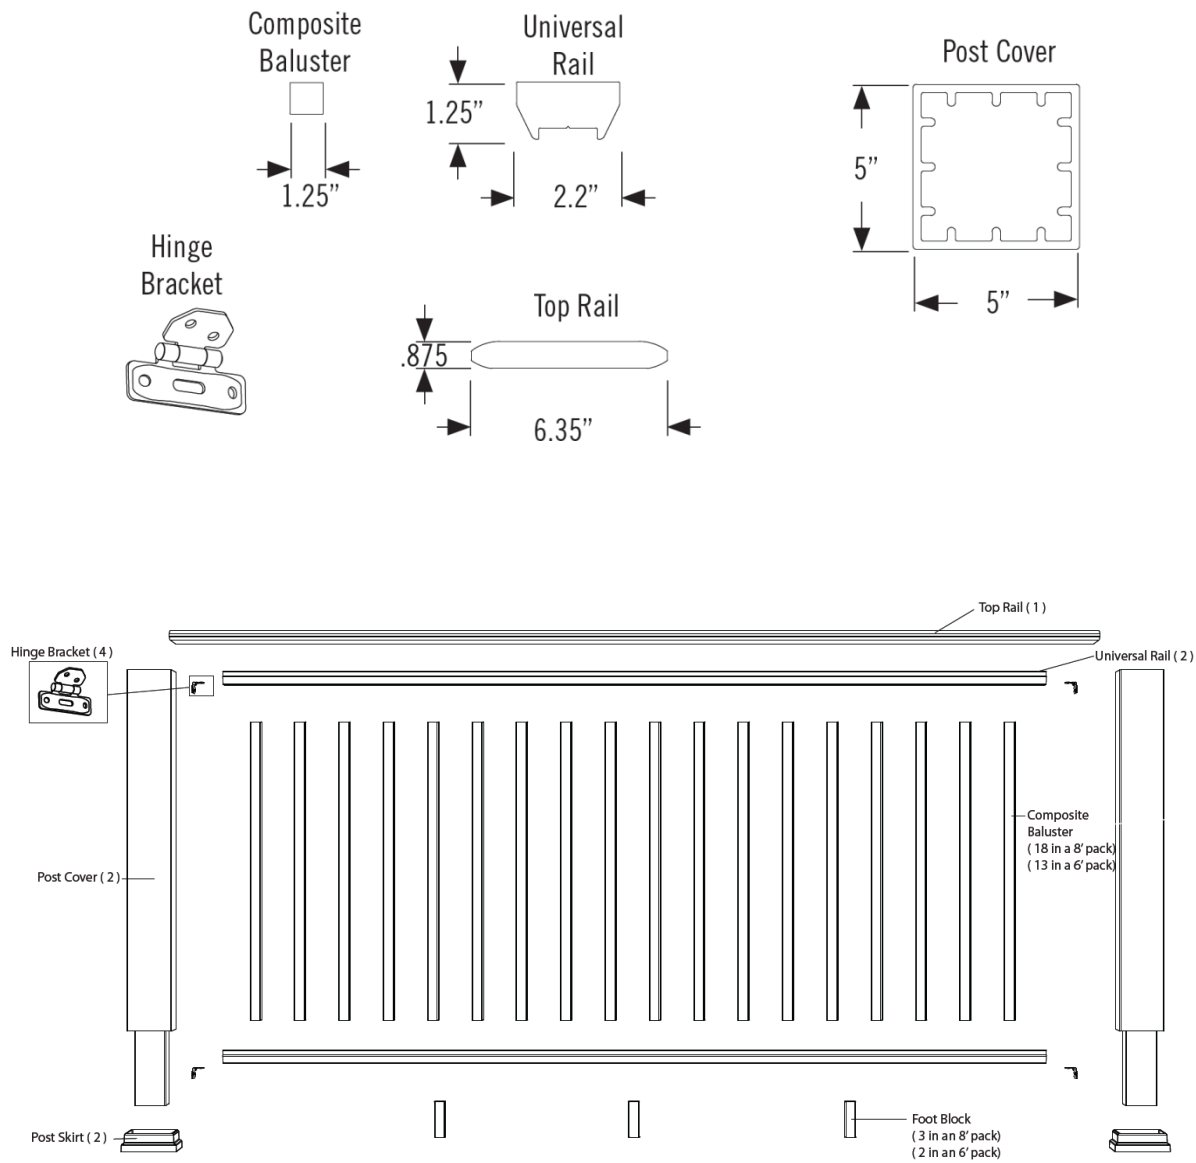

FIGURE 1 – EVOLUTIONS RAIL™ / CONTEMPORARY WITH WPC BALUSTERS
**5.2** *Evolutions Rail™* systems' top and bottom rails are attached to structural supports utilizing stainless steel mounting brackets. See Figure 1 through Figure 4. Stainless steel brackets are secured to structural wood supports (posts or framing) with #10 x 1.5-inch stainless steel screws and to the rails with #10 x 1-inch self-drilling stainless steel screws. Fastening schedules are described in Table 3.